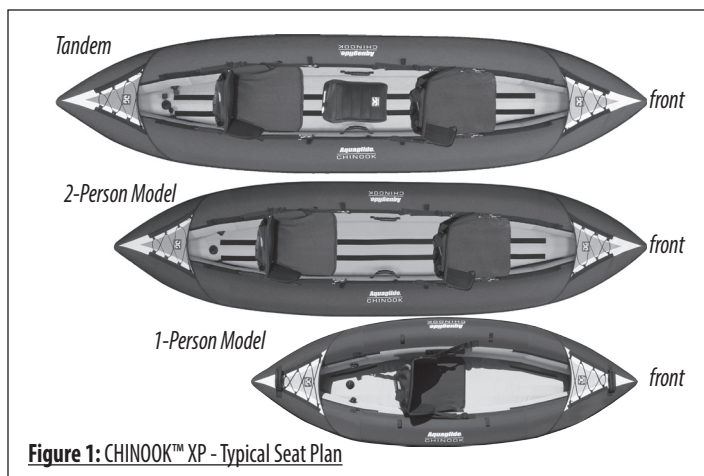

Figure 1: CHINOOK™ XP - Typical Seat Plan
6) Next position the seat(s) in the cockpit. Seat(s) connect to the floor with Velcro. Seats should be placed so as to evenly balance the boat when in the water. A solo paddler should be slightly aft of the boat's center. With two paddlers, the heavier one should sit toward the rear. See **Figure 1** for details.